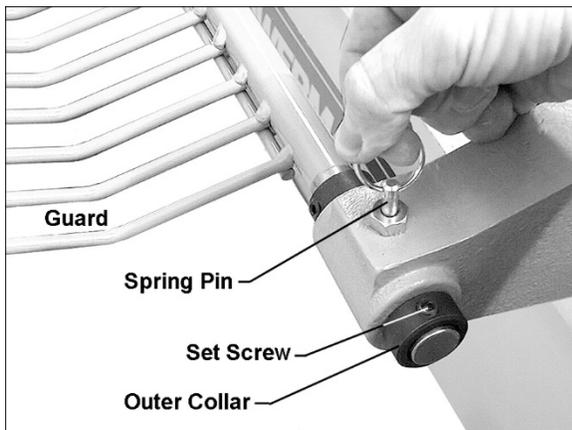

Figure 6-4: installing optional guard
1. On the guard, loosen set screw on outer collar (shown in Figure 6-4) with 4mm hex wrench. Slide outer collar off the guard support rod.
2. Insert guard support rod into mounting bracket at rear of headstock, as shown in Figure 6-4. Lift up on spring pin, as shown, to slide guard support rod into mounting bracket. Release spring pin and it will snap into position as you slide the support rod farther in.